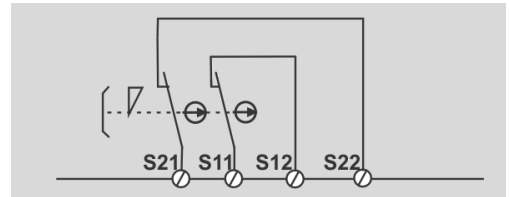

Figure 4 - Emergency stop button.
See figures 4 until 7.
- Product suitable for the emergency stop devices at safety inputs, as shown in Fig. 4 until 7.